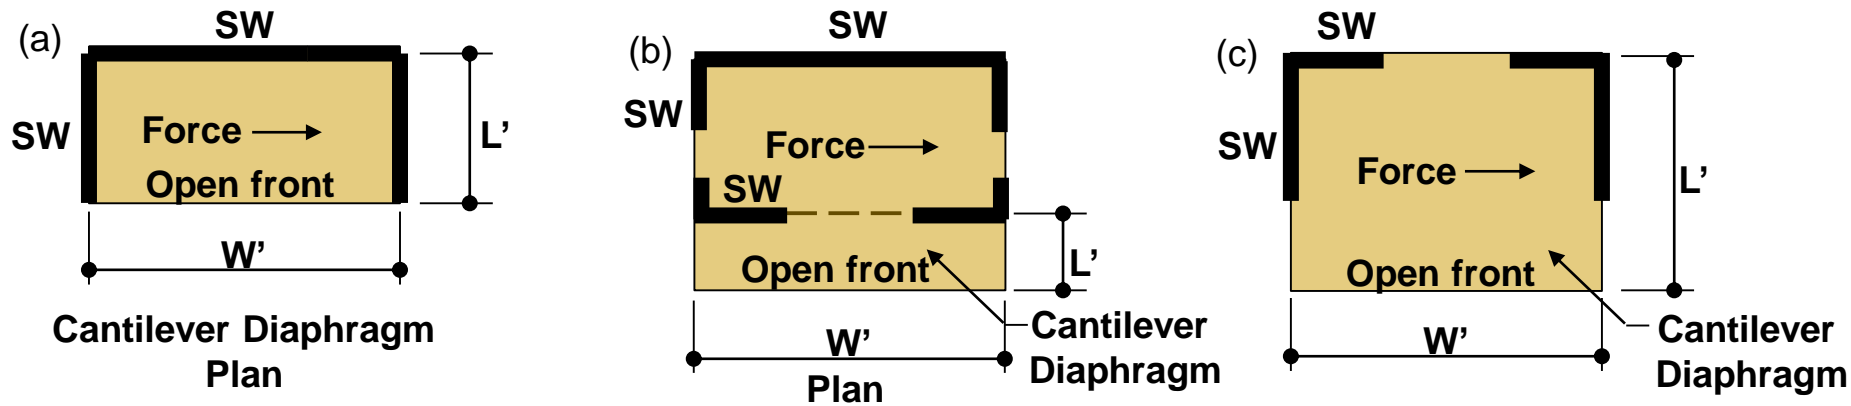

Figure 4A Examples of Open Front Structures
4.2.5.2 Open Front Structures: (Figure 4A)